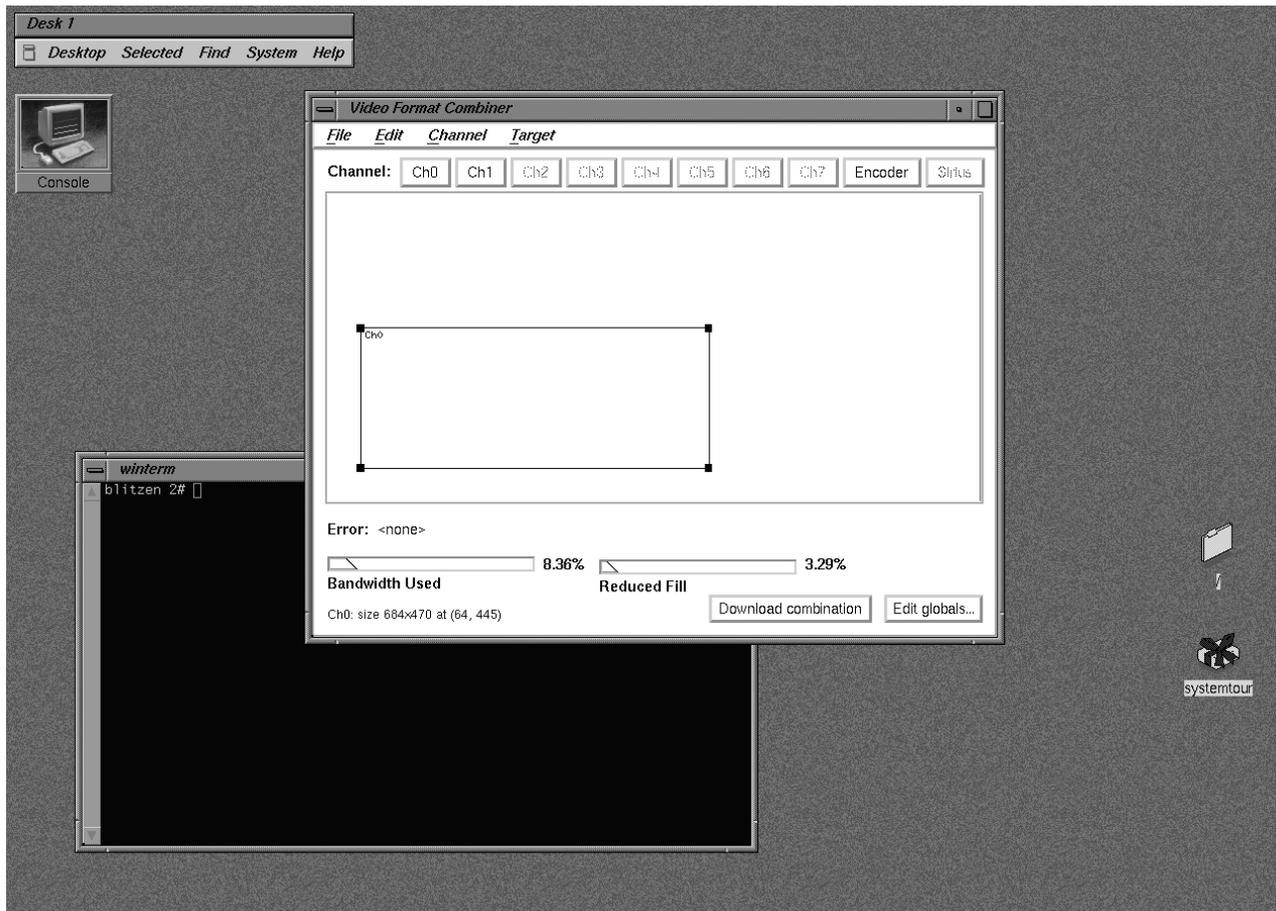

Figure 3-20 Static Resize Selection Example Screen
6. Move the cross (cursor) into the IRIX shell window and click the mouse button. The rectangle in the Combiner’s main window representing Ch0 now represents the area of the frame buffer covered by the 80 x 24 IRIX shell that you clicked in. See Figure 3-20 for a screen example.